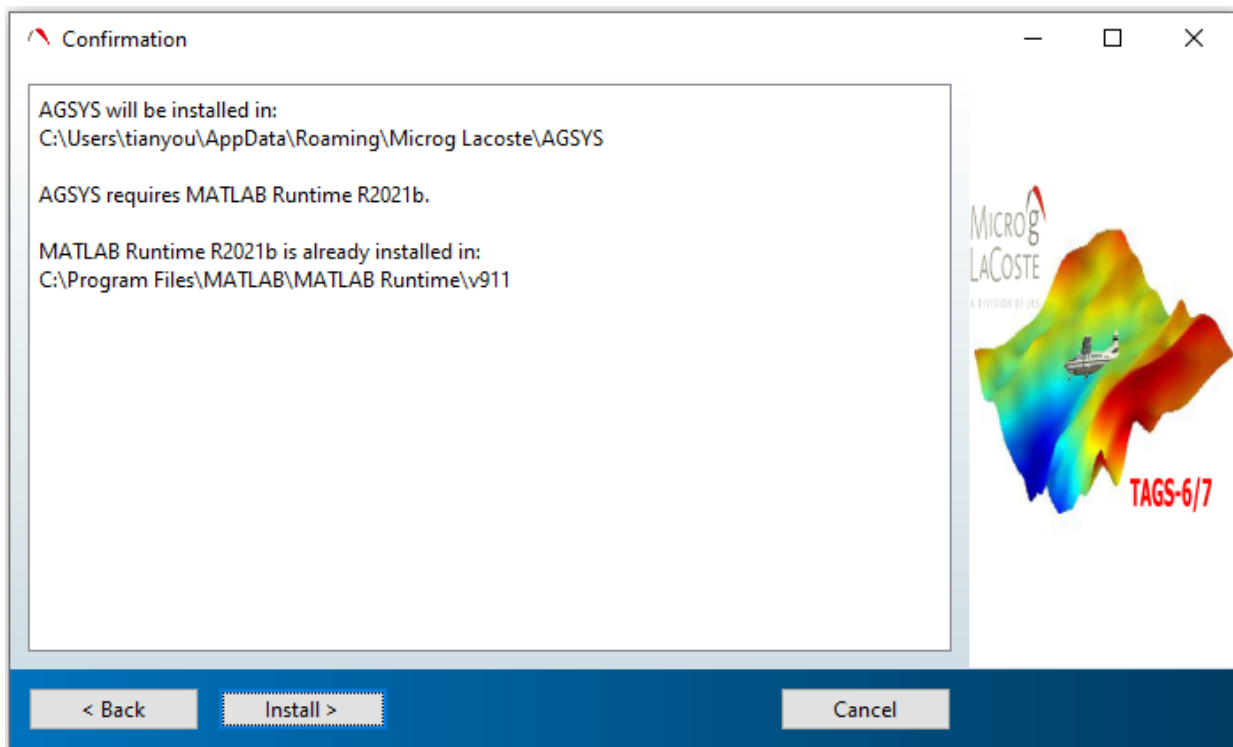

Figure 2-10 Confirmation Dialog
1. A **Confirmation** dialog (Figure 2-10) displays the packages to be installed.